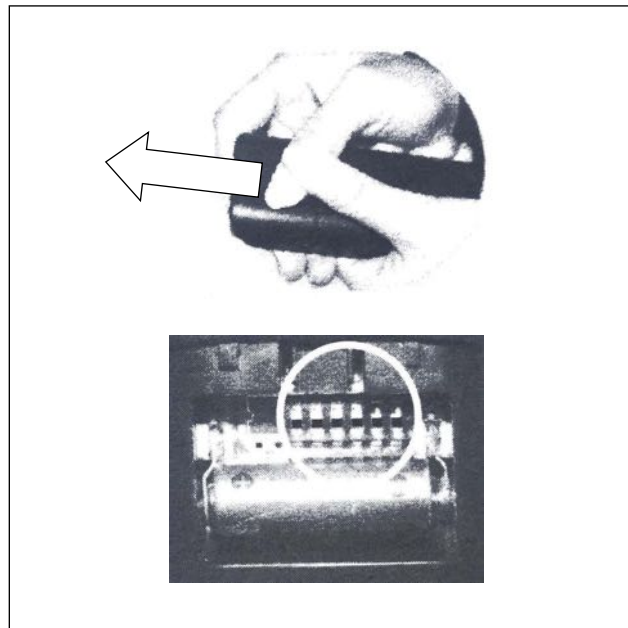

Figure 6
2. Open the battery cover on the remote and duplicate the 6-digit DIP switch setting on the power cord. (Figure 6)